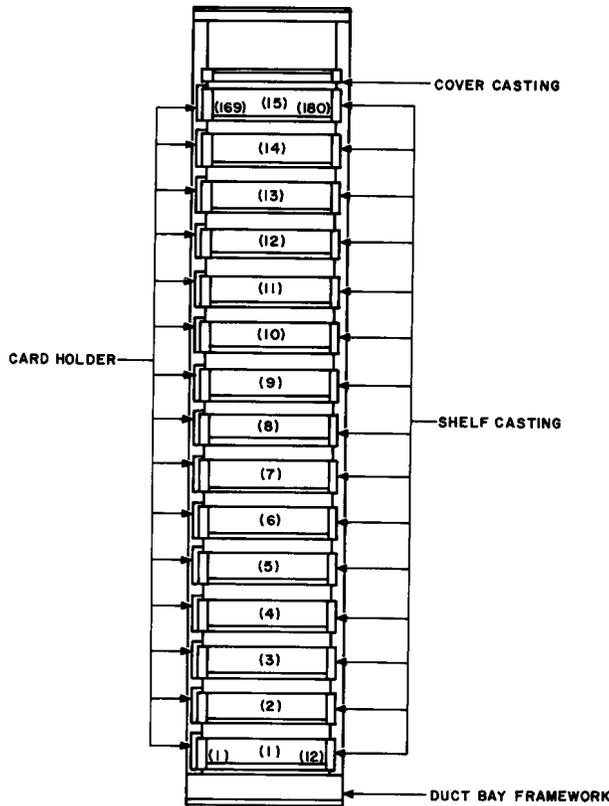

Fig. 3 — J99323D N2 Line Build-Out Bay Equipment Without Line Protectors and Without Power Feed (11 Feet 6 Inches High by 26-3/8 Inches Wide)
2.09 The J99323D line build-out bay, shown in Fig. 3, is an 11-foot 6-inch bay without primary line protectors and power feed arrangements. This bay provides build-out equipment for 360 carrier pairs in underground cable facilities. The fully equipped bay contains 15 mounting shelves for one hundred and eighty J99323AA plug-in line build-out units without constant-current regulators.
2.14 *The J99323J line build-out bay* is similar to the bay shown in Fig. 3 except that the equipment has been reduced to fit into a 7-foot bay. The frame comes without primary line protectors and without power feed arrangements. The bay provides line build-out equipment for 216 carrier pairs in underground cable facilities. The fully equipped bay contains nine mounting shelves for one hundred and eight J99323AA plug-in line build-out units without constant-current regulators.
2.18 *The J99323T line build-out bay* is similar to the bay shown in Fig. 3 except that the equipment has been reduced to fit into a 9-foot bay. The unit comes without line protectors and without power feed arrangements and provides build-out equipment for 288 carrier pairs. The fully equipped bay includes 12 mounting shelves for one hundred and forty-four J99323AA plug-in line build-out units without constant-current regulators.